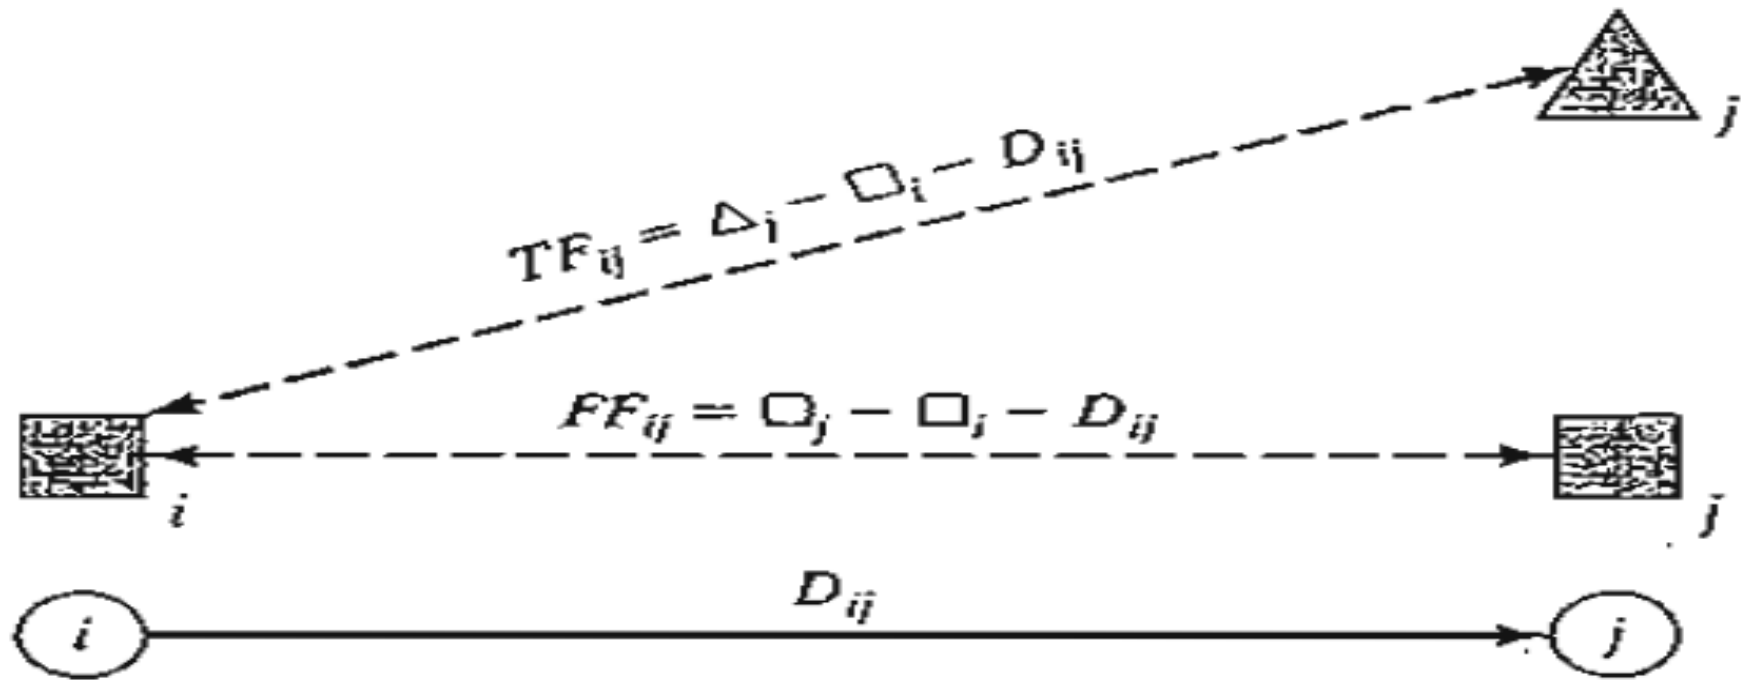

Figure 4.10 Computation of total and free floats
- ❑ Figure 4.10 gives a convenient summary for computing the **total float** (TF_{ij}) and the **free float** (FF_{ij}) for an activity (i, j) . The total float is the excess of the time span defined from the *earliest* occurrence of event i to the *latest* occurrence of event j over the duration (i, j) . That is,